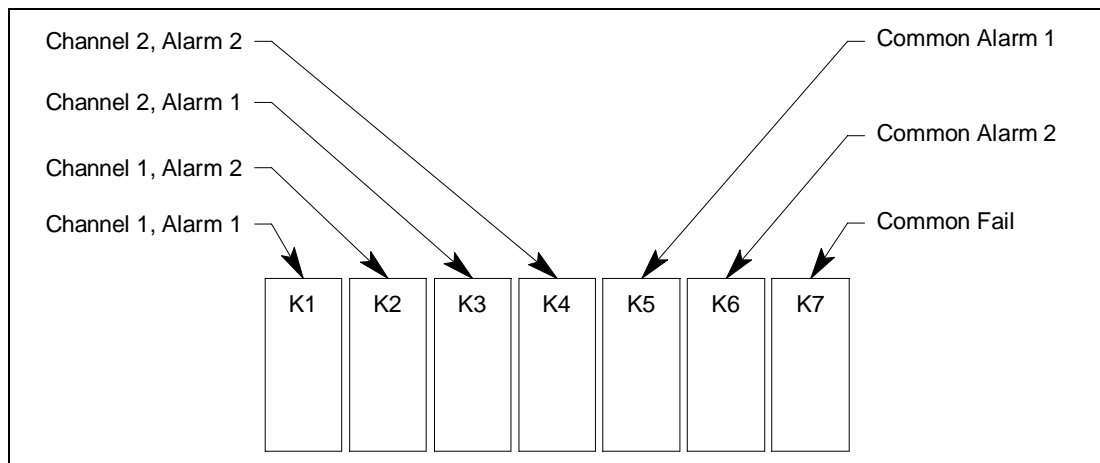

Figure 6. Beacon 200 Channel Relay Allocation
6. Connect the Line and Neutral AC wires to the AC power terminal strip as shown in Figure 6.